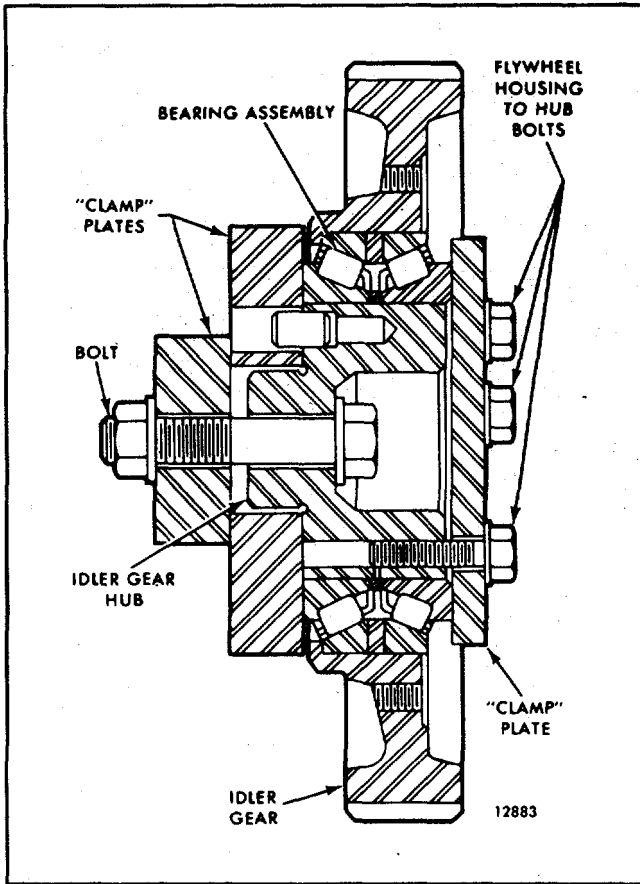
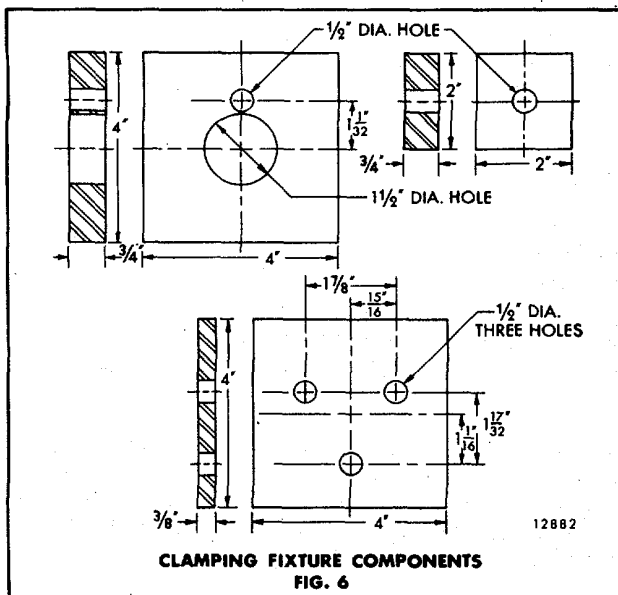

FIG. 6 - Fixture for Testing Bearing Pre-Load
FIG. 7 - Plates for Bearing Test Fixture
3. Place the steel plate (lower plate shown in Fig. 7) against the hub and bearing. Insert three 3/8"-16 bolts through the plate and thread them into the hub. Tighten the bolts to 25-40 lb-ft (34-54 Nm) torque.
If the crankshaft and camshaft gears are mounted on the engine, a suitable fixture, which may be held in a vise, can be made as shown in Fig. 6. Three plates, a 1/2"-13 x 2-3/4" bolt, 1/2"-13 nut, and two 1/2" plain washers are required. The plates are made from steel stock as shown in Fig. 7. Check the pre-load on the bearings as follows:
1. Attach two of the steel plates (two upper plates shown in Fig. 7) to the idler gear hub with the 1/2"-13 bolt, washers, and nut as shown in Fig. 6. Tighten the bolt to 80-90 lb-ft (108-122 Nm) torque.